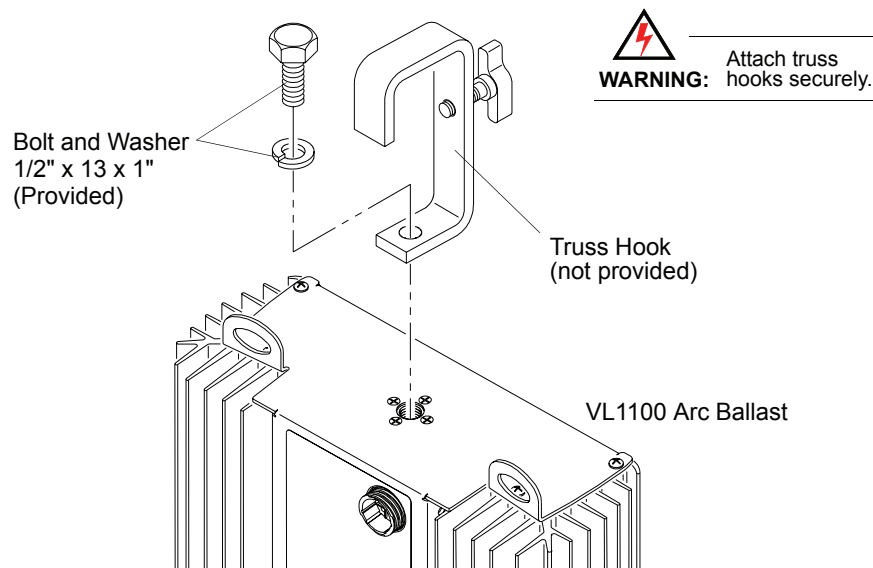

Figure 2-11: Example VL1100 Arc Ballast Truss Hook Installation
- Step 1. Attach truss hook as shown below (Figure 2-11).